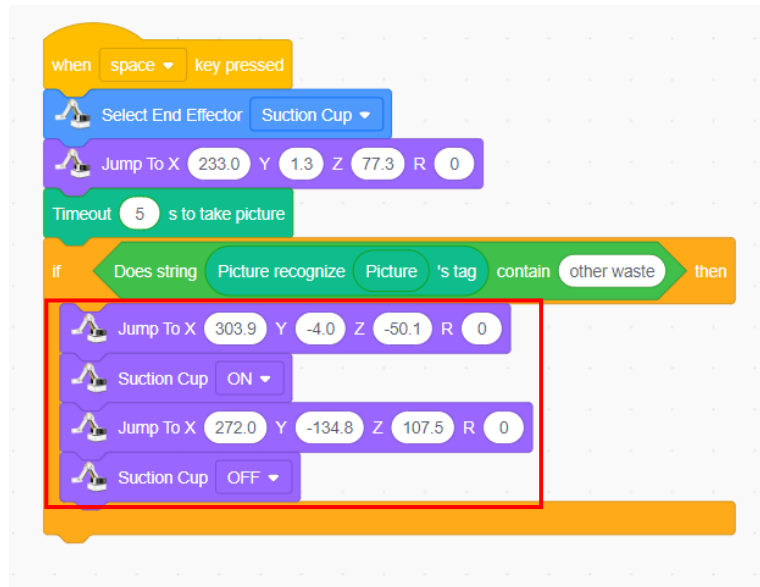

Figure 3.12 Robotic arm automatically classifies garbage
Step 7: If the conditions are met, place the garbage in the corresponding garbage bin, as shown in Figure 3.12.